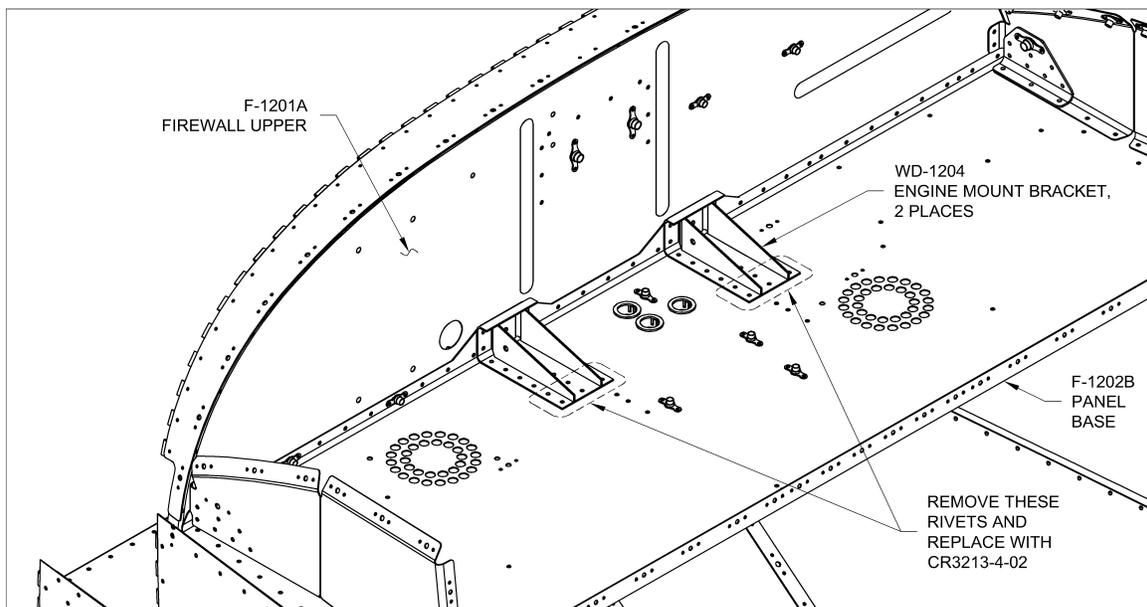

FIGURE 1: ENGINE MOUNT BRACKET RIVETS
Step 3: Carefully remove the six rivets in the aft two rows of both WD-1204 Engine Mount Brackets. See Figure 1.
Step 4: Install the rivets called out in Figure 1.